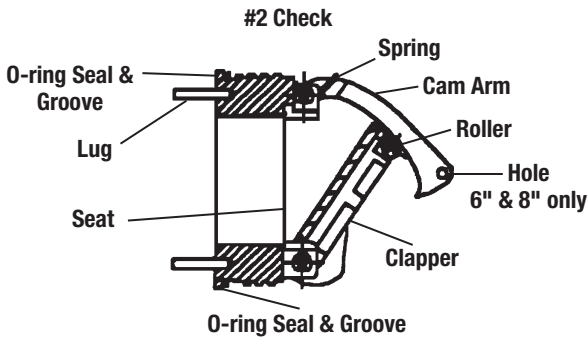

Figure 2
Slowly pull the assembly outward to open check allowing exposure of the seat and clapper contact area for cleaning. To clean #2 Check, lift Check Arm and hold in open position. Raise clapper so that the end of the Check Arm rests between roller and clapper (Figure 2). Thoroughly clean the seat area and clapper sealing surfaces of both Checks. Inspect seats, clapper sealing surfaces, Check Arms, and O-rings for damage. If not damaged gently close the clapper. If damaged, install a new Check assembly and/or O-ring.
#1 Cam-Check Figure 2
2. **#1 Check (Fig.2)** Using a  $\frac{1}{16}$ " socket wrench or nut driver, remove the four nuts from the #1 check studs (See fig. 1) Using two hands, place them at 12 o'clock and 6 o'clock, wiggle the check assembly free. Remove through access port with back of clapper first with back of clapper first with spring end down. Pull check assembly out of main body.